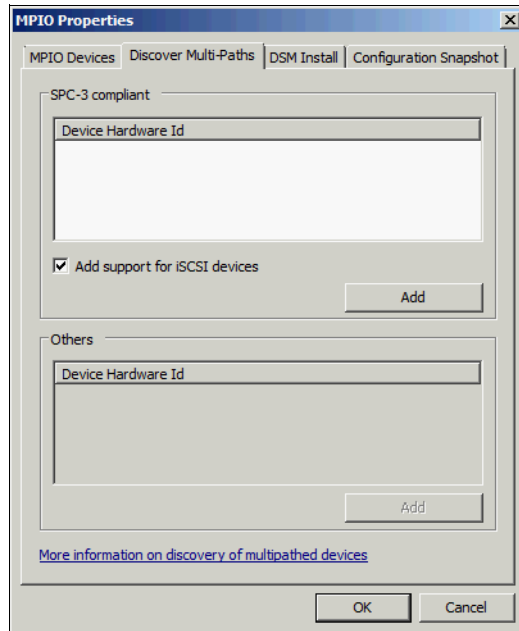

Figure 12-18 Enable iSCSI MPIO
2. Click **Start** → **Administrative Tools** → **MPIO**, click the **Discover Multi-Paths** tab, and select the **Add support for iSCSI devices** check box (Figure 12-18).